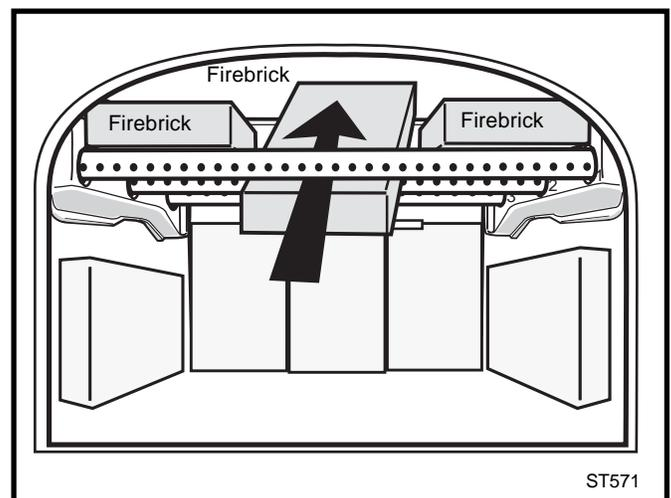

Fig. 30 Install the Upper Firebricks.
4. Insert the three Upper Firebricks into position above the Secondary Air Tubes as shown in Figure 30. Insert the bricks up between the #1 and #2 Air Tubes. The firebricks do not need cement - they simply rest directly upon the air tubes. Push each firebrick fully back against the Smokeshelf plate.
3. Use a fireplace tool to break up the charcoal and direct ash through the grate. Pull the charcoal from the back to the front. (Fig. 30) This will encourage efficient combustion as the fuel burns from front to rear.